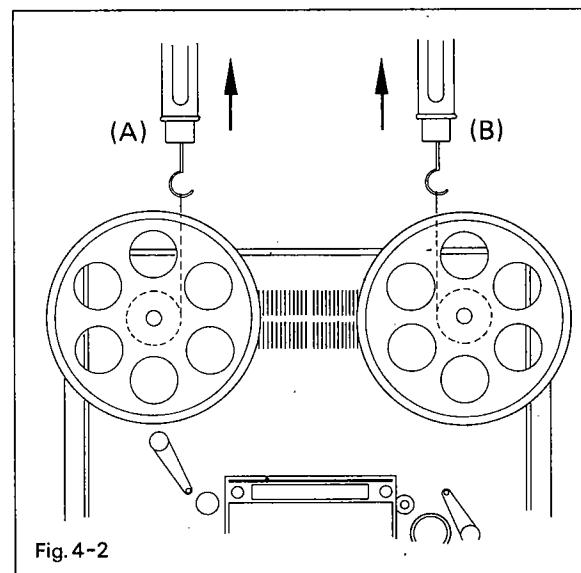

Fig.4-2
- 1) Set the Reel Size Select Switch to Large and mount on the left turntable a 7" small-hub reel with a piece of string attached to it, as shown in Fig. 4-2(A).
- 2) Set the deck in Play mode and pull the spring balance gently in the arrow direction indicated in Fig. 4-2(A) and read the figures indicated by the balance.
- 2) Mount on the right turntable a 7" small-hub reel with a piece of string attached to it as shown Fig. 4-2(B) to check REW back tension. If you discover a considerable difference between the torques of the FF and the REW, re-adjust the R-2 to minimize the difference between them.
- 1) Set the Reel Size Select Switch to Small and mount on the right turntable a 7" reel, described on f-1-1, and adjust R-1 to obtain 140g as shown Fig. 4-2(B).
- 1) Mount on the left turntable a 7" small-hub reel with a piece of string to it, as shown in Fig. 4-2(A).
in the arrow direction indicated in Fig. 4-2, and read the pressure indicated by the balance when the left turntable begins to turn.